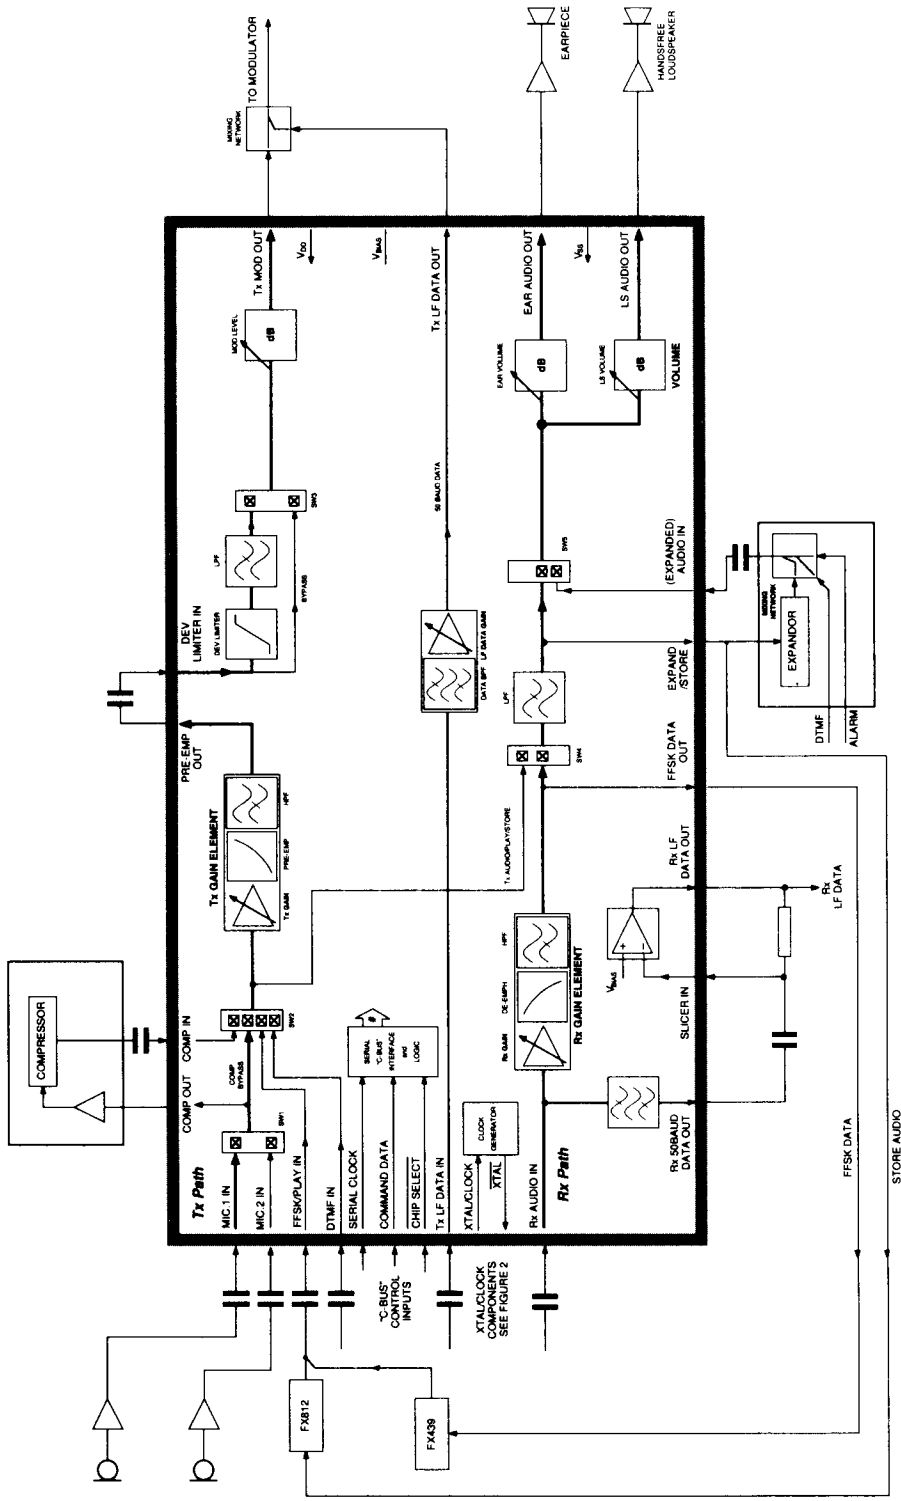

Fig. 4 The FX836 within an R2000 Cellular Radio System
- 11 **LS Audio Out:** An audio output of the Rx Path (or audio selected by SW2 and SW4 Figure 4) for a loudspeaker system. Available for handsfree operation this output is controlled by the Rx Gain and LS Volume Command ( $12_{\mu}$ ) and is internally connected to  $V_{BIAS}$  when not required. A driver amplifier may be required at this output.
- 12 **Ear Audio Out:** An audio output of the Rx Path (or audio selected by SW2 and SW4—Figure 4), available as an output for a handset earpiece. Separate from the LS Audio Out function, this output is controlled by the LF Data Gain and Ear Volume Command ( $13_{\mu}$ ) and is internally connected to  $V_{BIAS}$  when not required. A driver amplifier may be required at this output.
16	Rx LF Data Out: The output, to a 50 baud modem, of the received, filtered, LF data. This pin is used with the 50 Baud Data, Slicer In pins and external components to filter and limit the received LF data. See Figure 4.
17	Slicer In: The input to the data slicer. Employed as shown in Figure 4 to filter and limit the received LF data.
**Note** that Bits 6 and 7 can be configured to allow the Rx to "listen for data" whilst powersaved. See Figure 4.